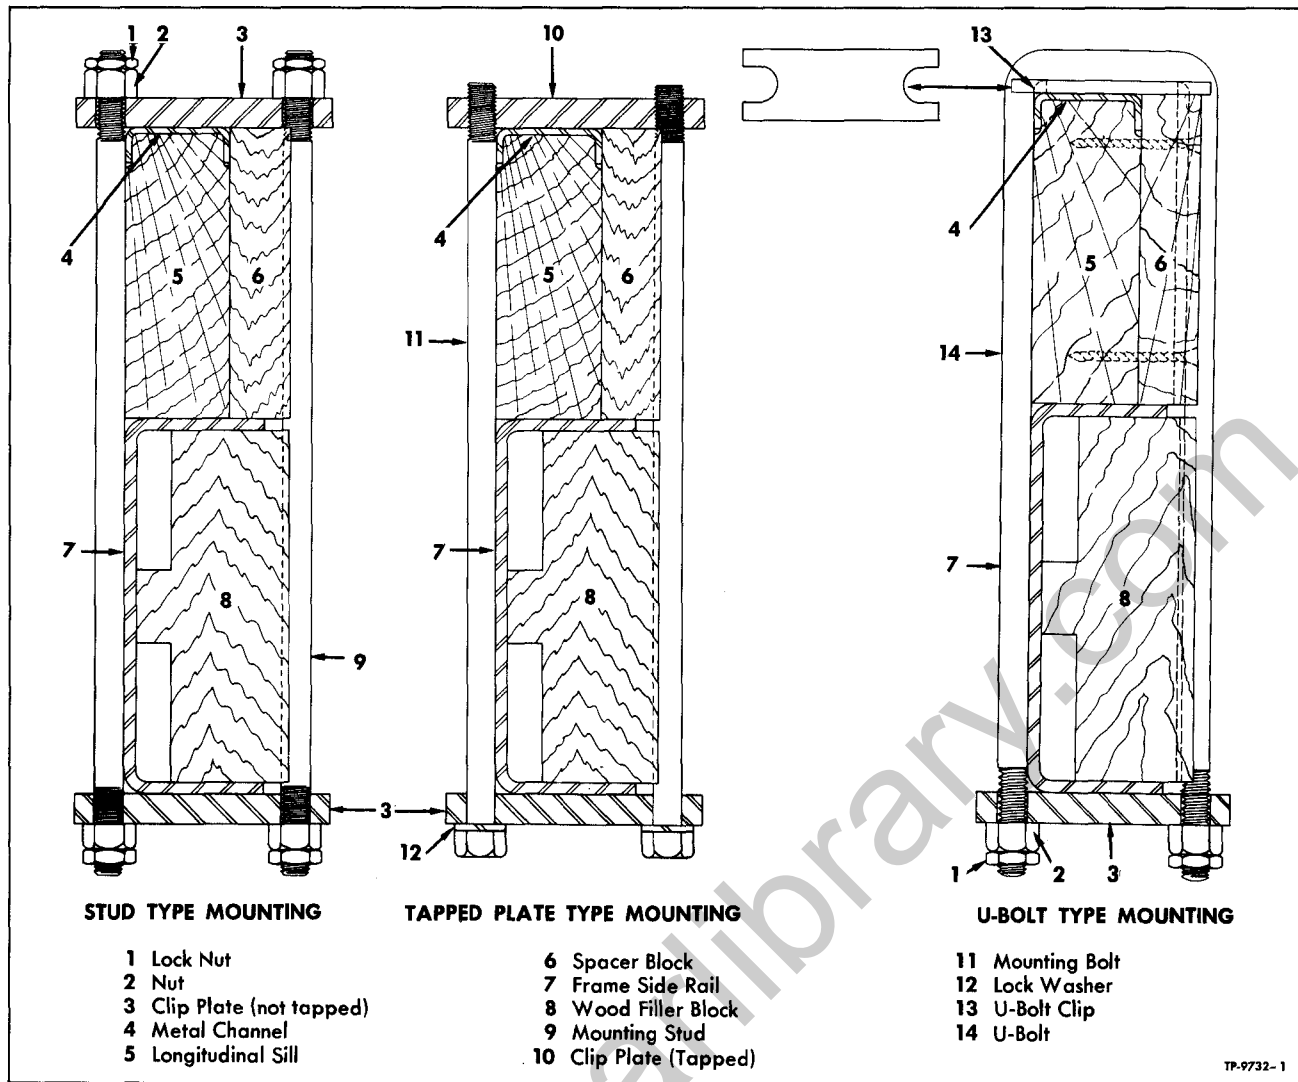

Figure 2—Recommended Methods of Mounting Body
extend beyond width of frame flanges to permit grooving blocks to maintain position of mounting bolts. If desired, block can be attached to sill with screws as shown in figure 2.
of nuts at top of sill, tapped plate, as shown in figure 2 can be used.
5. If shoulder on bolt head is square, as on carriage bolts, the holes in upper clipplates should also be square. Shoulder of bolts should be driven into holes to prevent bolts turning. If U-bolts are used, bolt must be of "flatted" type as shown in figure 2. A clip or spreader must be used on each U-bolt, and bolt must not be used in reverse of position shown in figure 2.